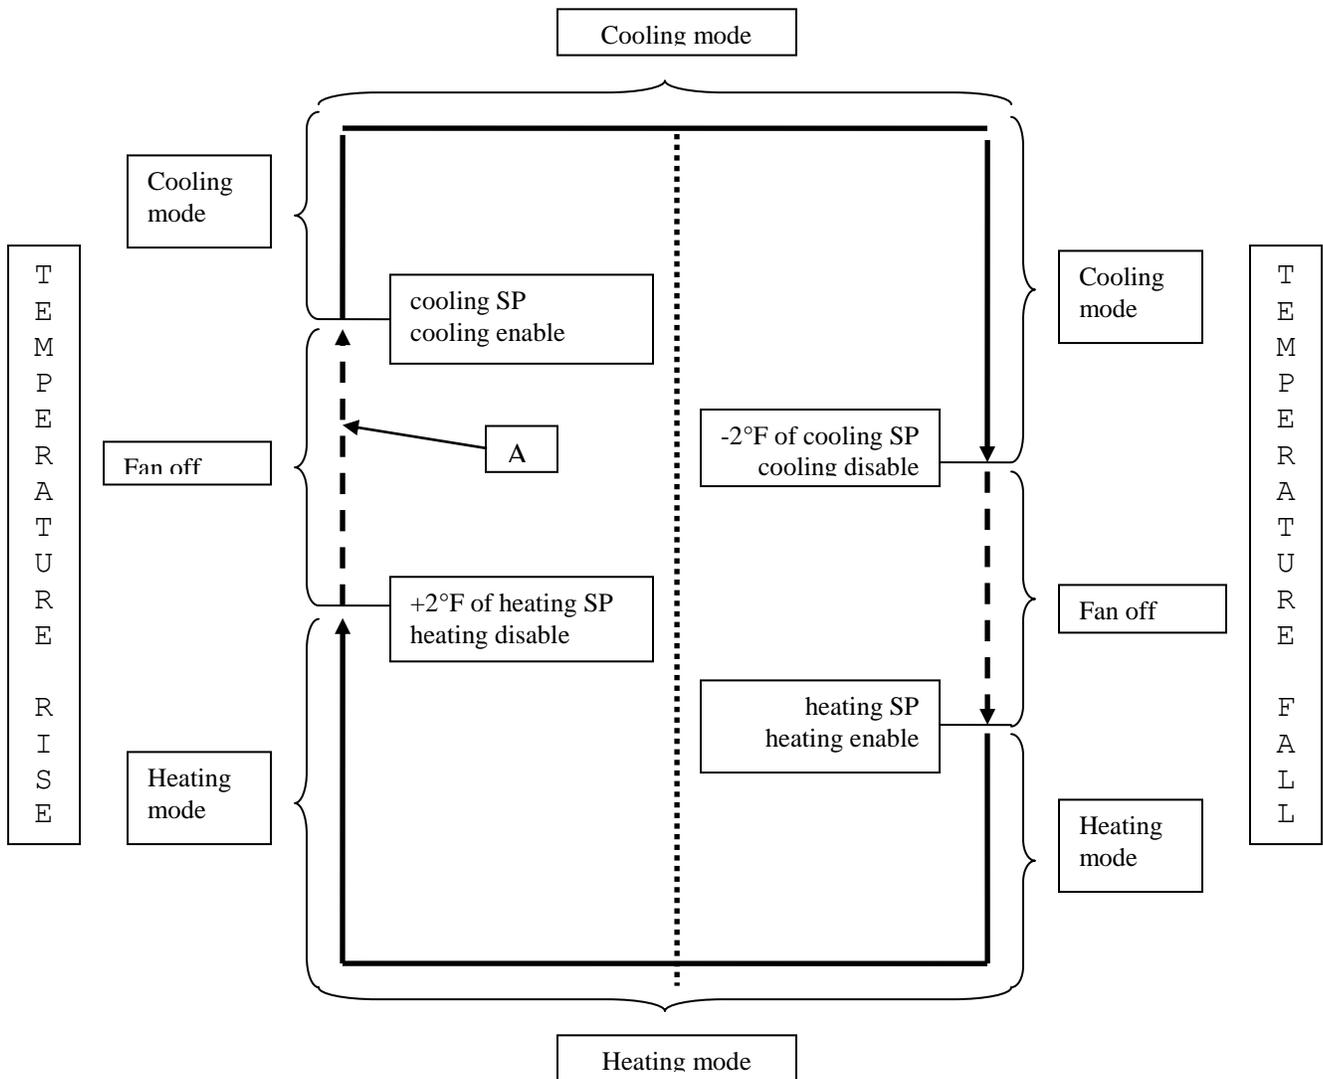

Figure 2
**Figure 2 Unoccupied Example:** (except MDT and MDT-Expert): Start at point “A”. The unit is off, because neither heating nor cooling is required, and the room temperature is rising. Follow the dashed line upward. If the room temperature rises to the cooling setpoint, the fan and cooling will be enabled, and the unit will be in the cooling mode. Follow the solid line clockwise. Once the room temperature has fallen to a temperature that is 2°F below the cooling setpoint, the cooling and fan will be disabled. Follow the dashed line downward. If the room temperature falls to the heating setpoint, the fan and heating will be enabled, and the unit will be in the heating mode. Continue following the solid line in a clockwise direction to the heating setpoint. Once the room temperature rises to a temperature that is 2°F above the heating setpoint, the heating and fan will be disabled.